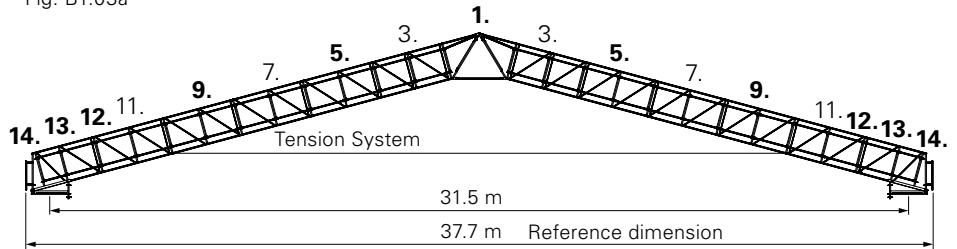

Fig. B1.03b
- 1st Basic Element (Fig. B1.03b)